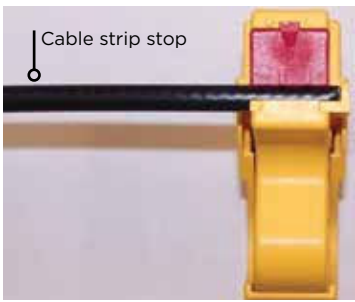

Figure 2
2. Place the cable between the jaws of the tool as shown in Figure 2. The jaws are opened by pressing each tool handle in Figure 1. Position the end of the cable to the cable strip stop on the right edge of the lower jaw as indicated in Figure 2. This will insure proper conductor length.